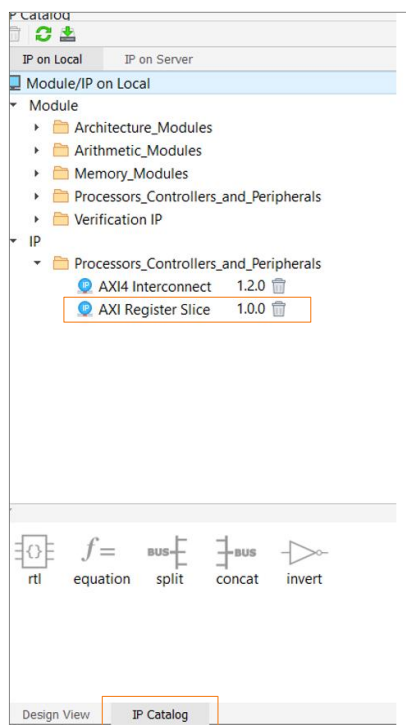

Figure 2.21. IP Catalog Settings
- Click on the **IP Catalog** tab and double click on **AXI Register Slice** to bring up the configuration dialog as shown in Figure 2.21.